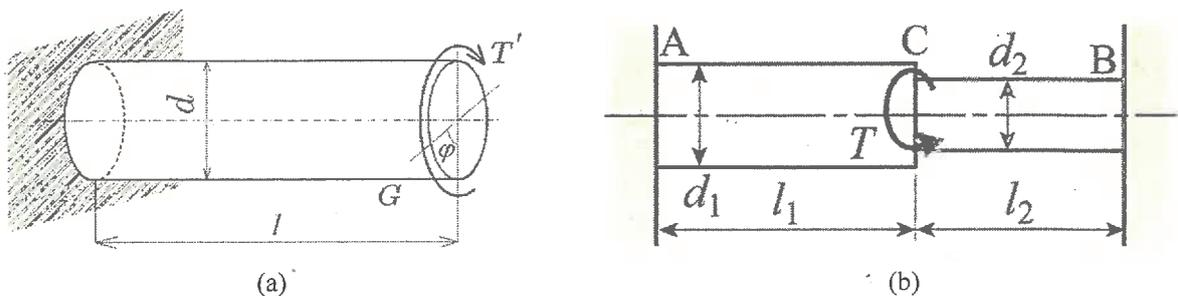

Fig. 2
1. Fig. 2(a)に示すように、直径 d 、長さ l の丸棒の一端を剛体壁に固定し、他の自由端にねじりモーメント T' を作用させたとする。棒内の最大せん断応力 τ_{max} 、および自由端のねじれ角 ϕ に対して以下の式(1)を導出せよ。ここで、 G は横弾性係数とする。
2. Fig. 2(a)に示す棒に蓄えられるひずみエネルギー U' を求めよ。
3. Fig. 2(b)に示すような直径 d_1 と d_2 をもつ段付き丸棒が、点Cにおいてねじりモーメント T を受けるとき、段付き丸棒の点AおよびBにおける支持モーメント T_A と T_B を求める問題を考える。この問題が不静定となる理由を説明せよ。
1. As shown in Fig. 2(a), one end of a round bar with diameter d and length l is fixed on a rigid wall. Assume that a torsional moment T' is applied to the other free end of the bar. Derive the following equations in (1) for maximum shear stress τ_{max} in the bar and angle of twist ϕ at the free end, where G is a transverse elastic modulus.
2. Calculate the strain energy U' stored in the bar as shown in Fig. 2(a).
3. Let us consider the problem which the torsional moments T_A and T_B at the points A and B are obtained when a stepped cylindrical bar as shown in Fig. 2(b) with d_1 and d_2 in each diameter is subjected to torsional moment T at the point C. Explain reasons why the problem is statically indeterminate.
4. On the previous problem 3, calculate the strain energies U_{AC} , U_{CB} and U stored in the section AC, the section CB and the whole stepped bar as shown in Fig.2(b), respectively. Here, the transverse elastic modulus G is assumed to be uniform through the bar.
5. Based on the Castigliano's second theorem and the result of the previous problem 4, calculate T_A and T_B , and the angle of twist ϕ_C at the point C of the stepped bar shown in Fig.2(b).